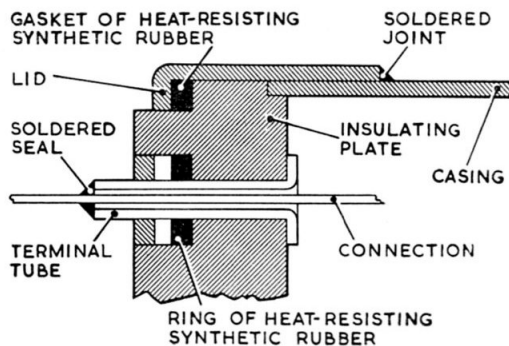

Fig. 3. Method of hermetically sealing the relay
4. The method of hermetically sealing the relay in its casing is illustrated in fig. 3. The connections from the contact springs and coil tags are brought out through the terminal tubes, and the ends of the tubes are sealed with solder. The lid is placed over the casing and pressure is applied to its top to exclude all air from between the synthetic rubber gasket on top of the insulating plate and the inside of the lid. Whilst under this pressure the lid is soldered to the casing.